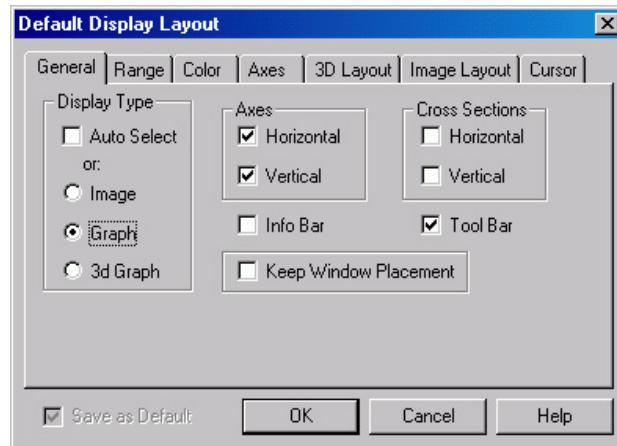

Figure 77. Display Layout dialog box
4. Select Layout on the Display menu. The Display Layout dialog box will open as shown in Figure 77.